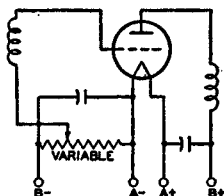
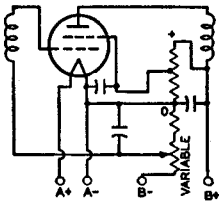

Fig. 91—Amplifier stage using a variable cathode-bias resistor for volume control.
Fig. 93—Amplifier stage using a bleeder circuit and potentiometer for volume control.
**Grid-bias variation** for the rf and if amplifier stages is a convenient and frequently used method for controlling receiver volume. The variable voltage supplied to the grid may be obtained: (1) from a variable cathode resistor as shown in Figs. 91 and 92; (2) from a bleeder circuit by means of a potentiometer as shown in Fig. 93; or (3) from a bleeder circuit in which the bleeder current is varied by a tube